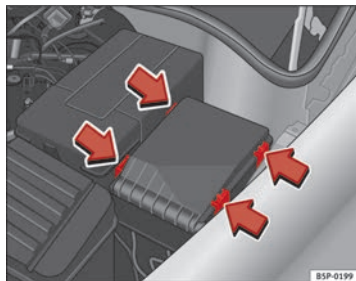

Fig. 184 Fuse box cover in engine compartment
- Prise off the fuse cover in the engine compartment by pressing the tabs towards the centre of the cover ⇒ Fig. 184.